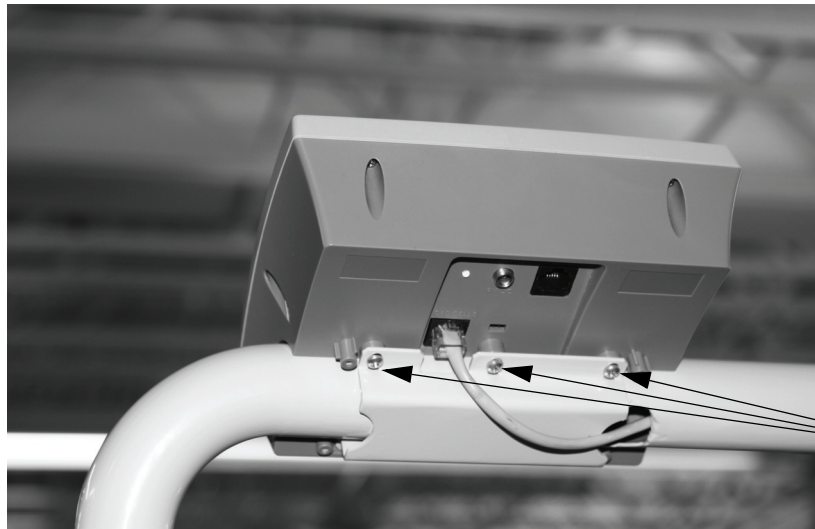

Figure 2-3. Mounting Bracket Screw Location
2. Unscrew the six screws on the back panel plate of the scale and position the indicator to it and screw back the six screws to secure the indicator to the scale handle as shown in Figure 2-3.